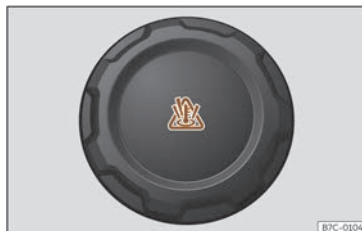

Fig. 210 Front compartment: coolant expansion tank cap.
- The motor coolant expansion tank can be recognised by the symbol on the cap ⚠ >>> **Fig. 210**